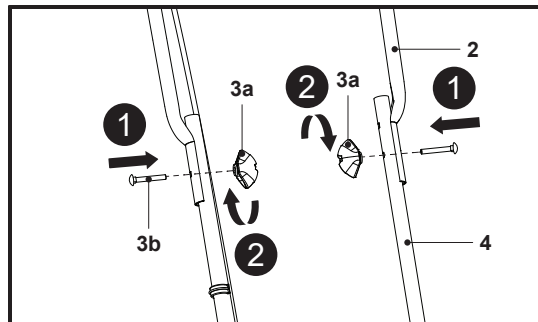

Fig. 2
1. Attach the upper handle bar (2) to the lower handle bars (4) and align the holes in the upper handle bar with the ones in the lower handle bars (Fig. 2).
2. Secure the upper handle bar (2) with the mounting sets (3) to the lower handle bars (4) and tighten the knobs (3a) clockwise (Fig. 2).